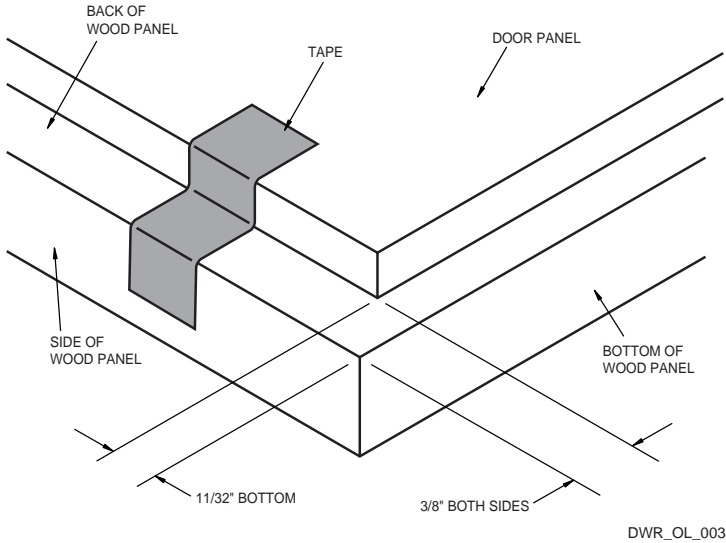
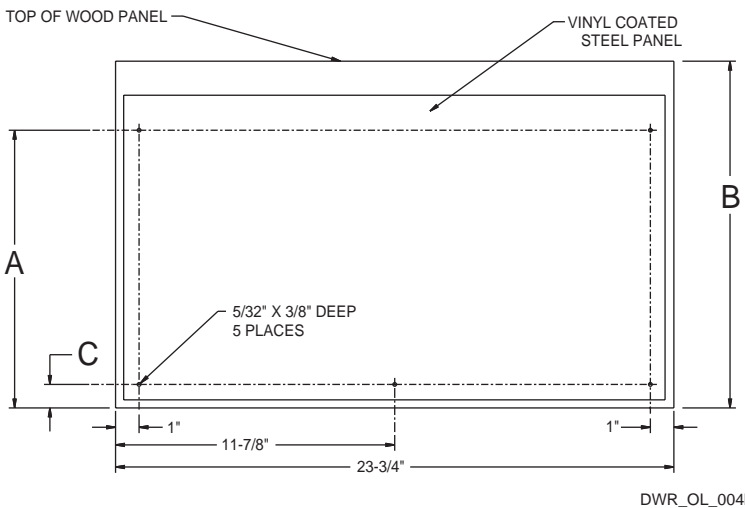

Figure 14
Figure 15
Full overlay drawer panels completely cover the drawer frames and handle to give a built-in appearance. See Table 1 for full overlay drawer panel dimensions (Figure 15, see page 15).
5. On a clean surface, place the wood panel face down and tape the existing drawer panel (removed in step 3) on the back of the wood panel (Figure 14) and drill the five (5) holes ( $5/32$ " drill  $3/8$ " deep) through the coated steel panel and  $3/8$ " into the wood panel according to the diagram (Figure 15). Remove tape from the drawer panel, and enlarge the five holes in the front panel using a  $.0201$ " drill (#7) drill.